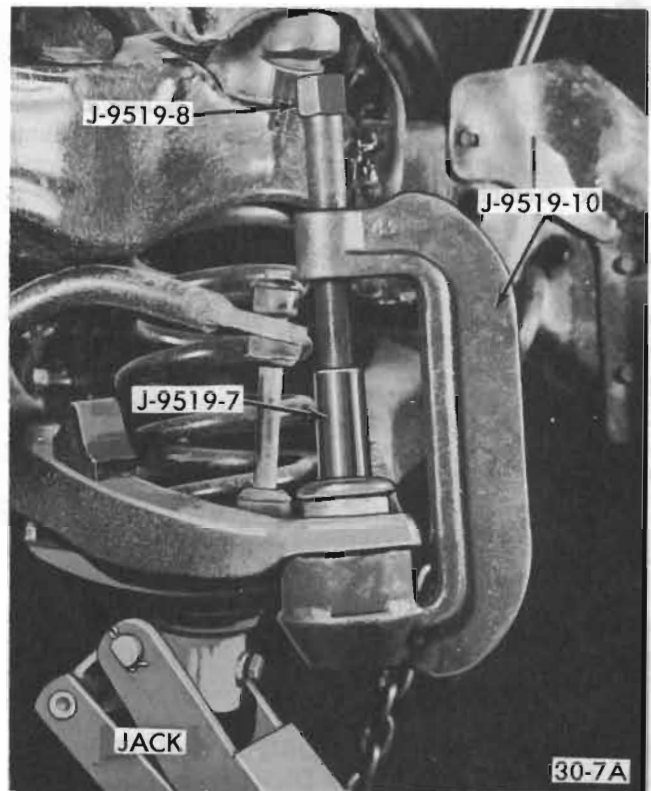

Figure 30-33 - Lower Ball Joint Remover in Place
6. Install lower ball joint remover and installer as shown in Figure 30-33.